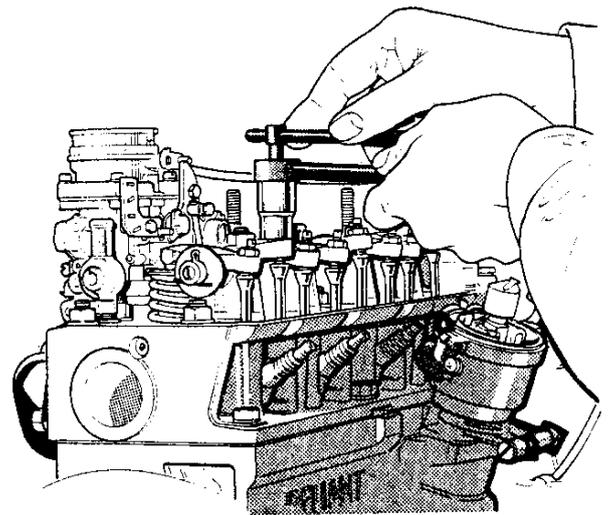

Figure 31 Tappet adjustment tool
5. Refit rocker cover, renewing gasket if necessary. Alternatively the tappets can be adjusted using a proprietary tool similar to No. 6500A (see **figure 31**).